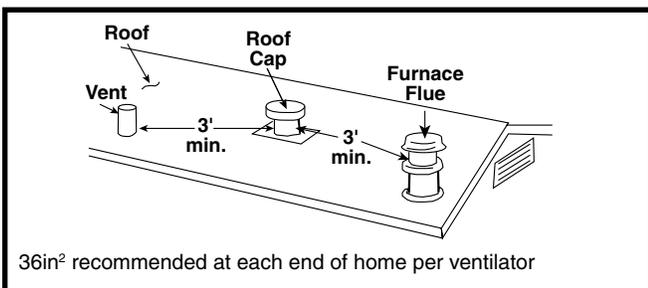

Figure 4. Roof Spacing
- Determine location of roof opening. **NOTE:** The roof cap assembly should be located as closely as possible to the center of the home, allowing connection of the fresh air intake to the furnace using the 11-foot length of flexible duct provided. See Figure 4.